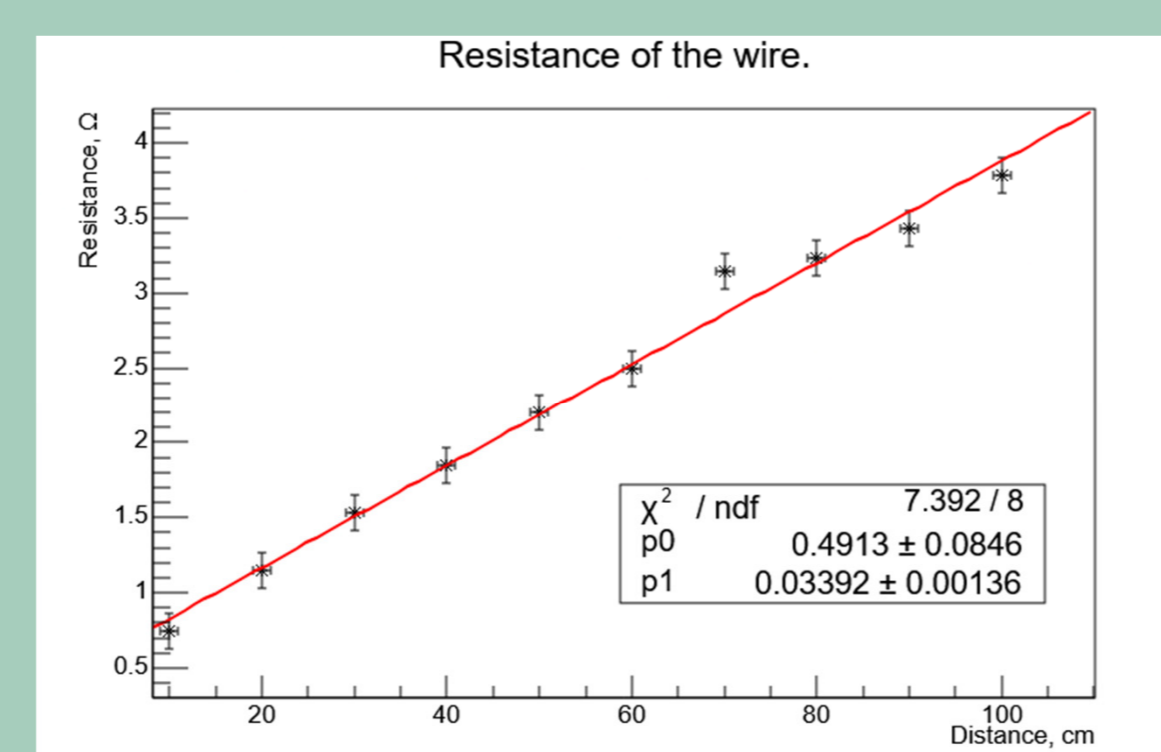

Figure 2. A linear fit to data using online tool.
- We created <https://sos.clayton.edu/physics/chi2> website using ROOT and Python as a web interface that can be used by students – sample fit shown in Figure 2 below.